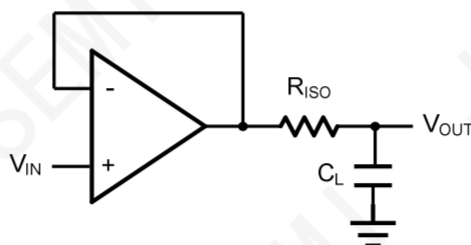
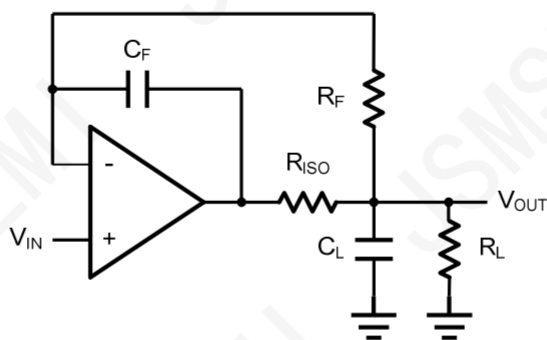

Figure 2. Indirectly Driving a Capacitive Load Using Isolation Resistor
Figure 3. Indirectly Driving a Capacitive Load with DC Accuracy
The JSM8632XS/TR family is optimized for bandwidth and speed, not for driving capacitive loads. Output capacitance will create a pole in the amplifier's feedback path, leading to excessive peaking and potential oscillation. If dealing with load capacitance is a requirement of the application, the two strategies to consider are (1) using a small resistor in series with the amplifier's output and the load capacitance and (2) reducing the bandwidth of the amplifier's feedback loop by increasing the overall noise gain. Figure 2. shows a unity gain follower using the series resistor strategy. The resistor isolates the output from the capacitance and, more importantly, creates a zero in the feedback path that compensates for the pole created by the output capacitance.
The circuit in Figure 3 is an improvement to the one in Figure 2. R_F provides the DC accuracy by feed-forward the V_{IN} to R_L . C_F and R_{ISO} serve to counteract the loss of phase margin by feeding the high frequency component of the output signal back to the amplifier's inverting input, thereby preserving the phase margin in the overall feedback loop. Capacitive drive can be increased by increasing the value of C_F . This in turn will slow down the pulse response.